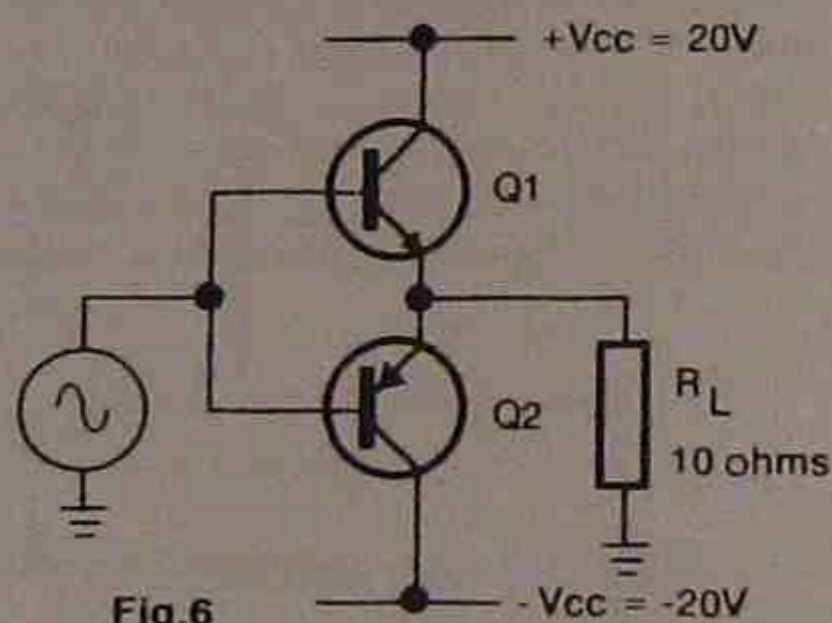

Fig.6
**EXAMPLE 2:** Calculate the maximum output power for the circuit of Fig.6.
The circuit of Fig.6 is referred to as a Complementary Symmetry amplifier, as it uses an NPN and a PNP transistor (complementary pair). Their characteristics need to be matched, in which both transistors should have the same current gain (symmetrical). The circuit configuration is actually two emitter followers connected in 'push-pull'. Thus, the output signal voltage will be virtually equal to the input signal, giving a voltage gain of unity. In practice, the gain will be less than unity due to losses. As well, the maximum output voltage swing will be less than the supply rails, due to voltage drops across the transistors.